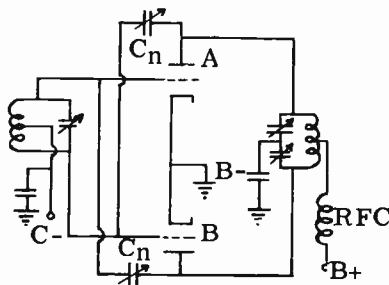

FIG. 13-11. CRISS-CROSS NEUTRALIZATION.
**CRISS-CROSS NEUTRALIZATION.** Fig. 13-11 shows a third system of neutralization. This is the system used to neutralize an RF amplifier stage consisting of two triodes in push-pull. It is called **CRISS-CROSS NEUTRAL-**
Neutralizing capacitors are not shown in Fig. 13-16. This is because the transistors chosen have a low input impedance. This prevents feedback from the collector to the base. In the event that the circuit is used at a high frequency where it may oscillate, then push-pull neutralization of the type shown in Fig. 13-11 may be used.